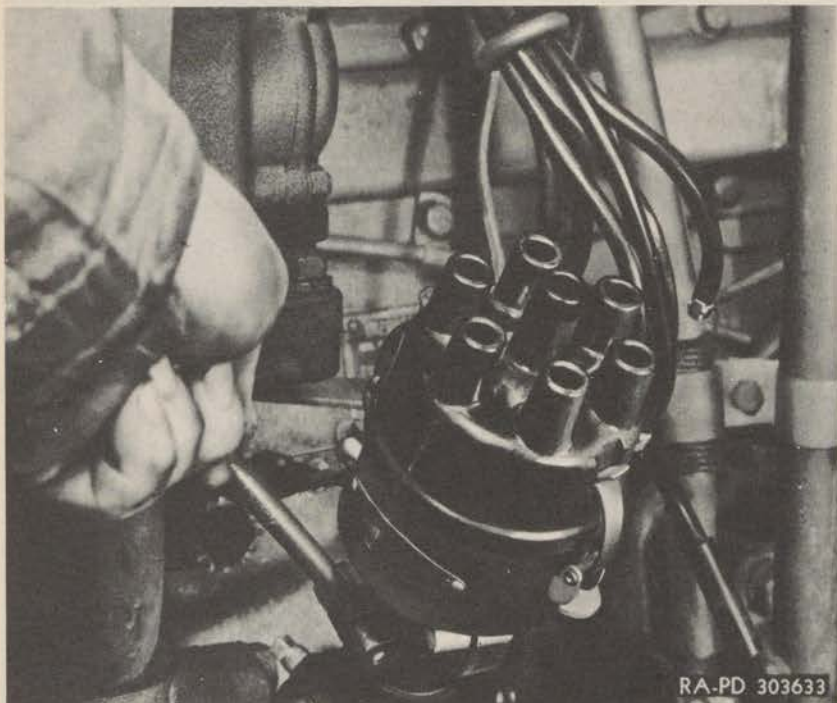

Figure 78—Loosening Distributor Housing Clamp
(5) **REMOVE DISTRIBUTOR.** Back off the distributor housing clamp screw and lift the distributor assembly out of the tachometer adapter (fig. 78).